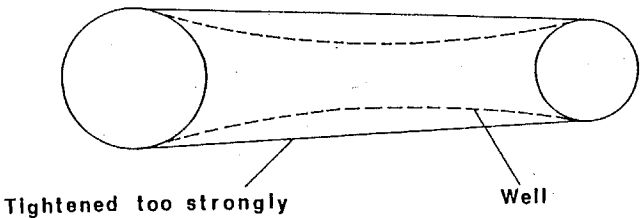

FIG 1.2
6. Push with one hand the motor upwards, and place the driving belt (attached to the sewing machine) (M10012) around the pulley of the motor. Push the motor down to stretch the belt slightly as seen in FIG 1.2.